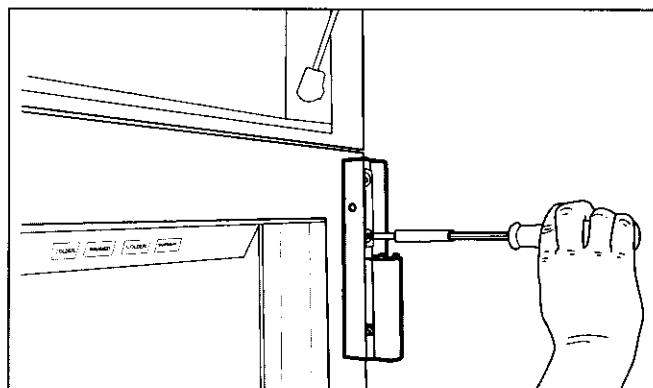

Figure 2-12. Loosen Cabinet Hinge Screws
3. Remove hinge pins (See Figure 2-12).
4. Loosen the two cabinet hinge screws 1/4 to 1/2 turn (See Figure 2-12).